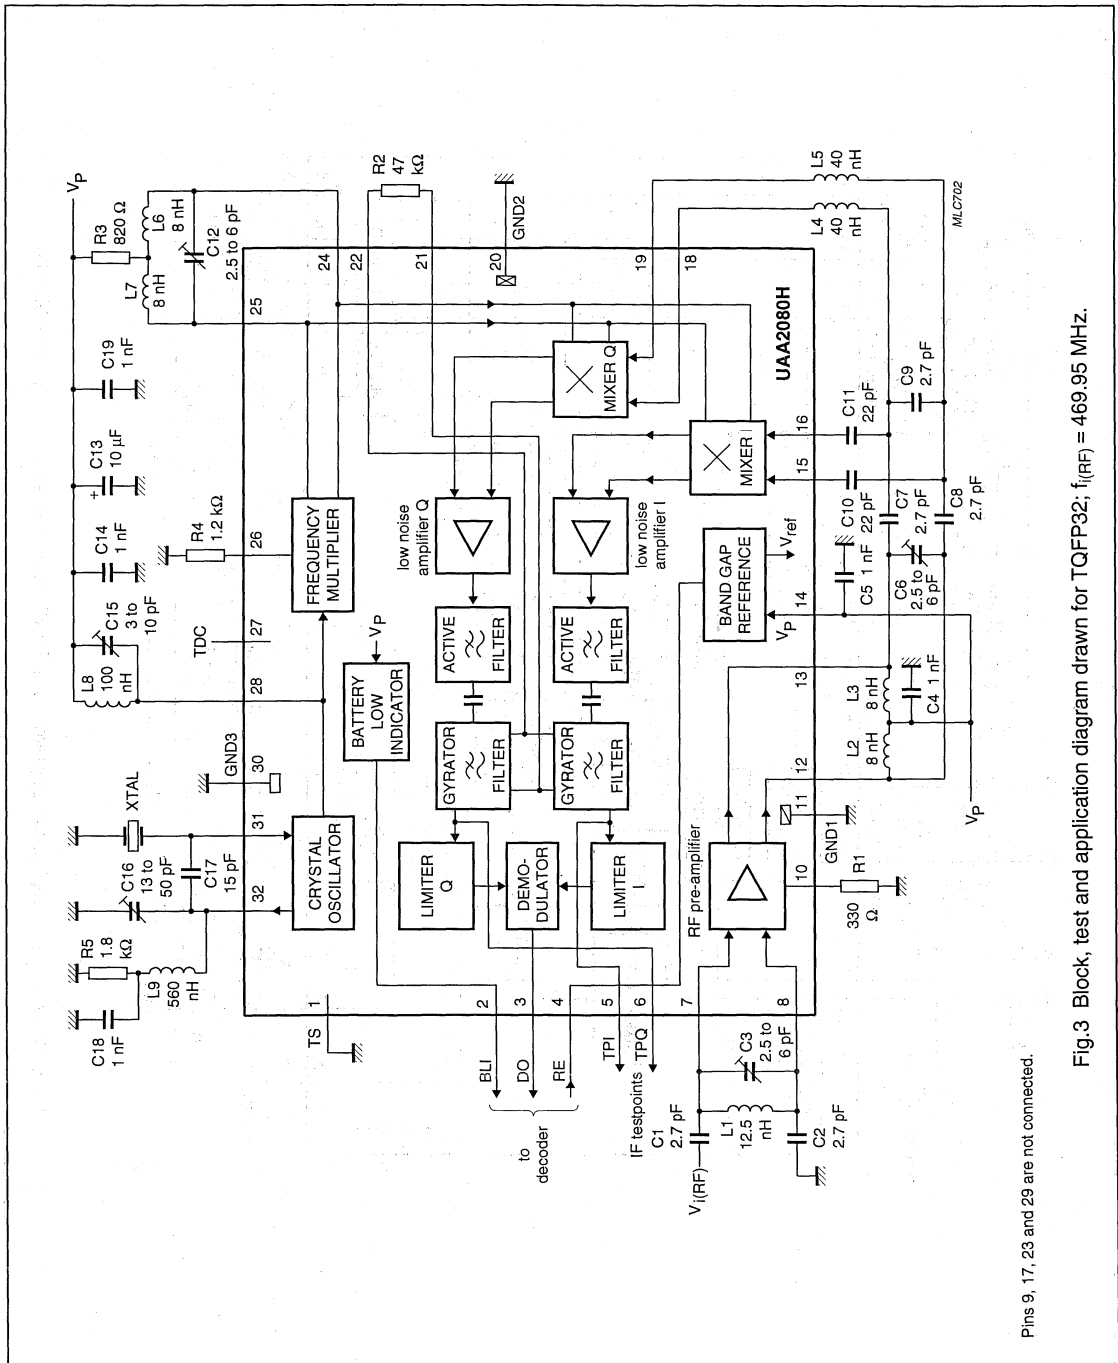

Fig.3 Block, test and application diagram drawn for TQFP32; fi(RF) = 469.95 MHz.
**Table 2** Tolerances of components shown in Figs 3, 4 and 5 (notes 1 and 2)